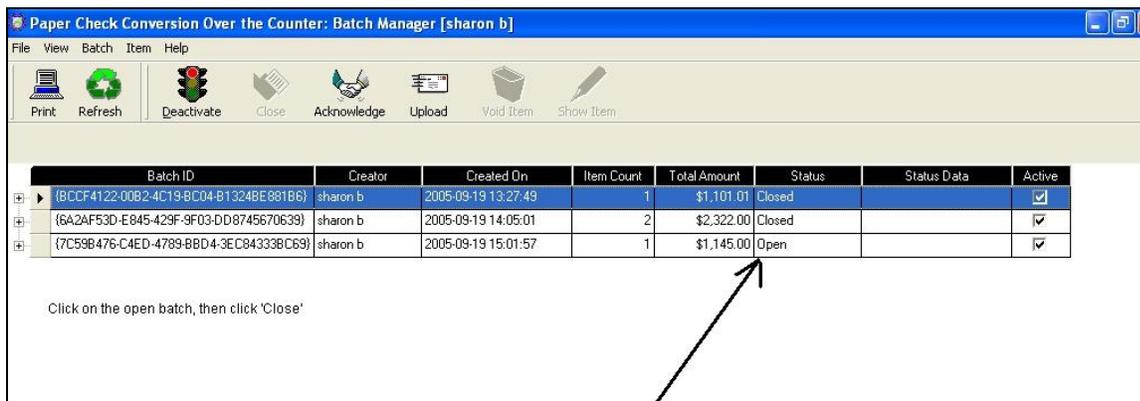

Figure 4.12
1. Click to select the open batch you want to close. (Figure 4.12)